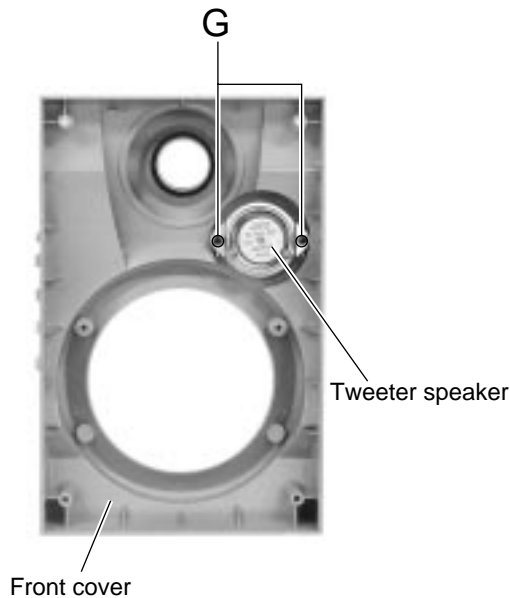

Fig.8
■ Removing the tweeter speaker (See Fig.8)